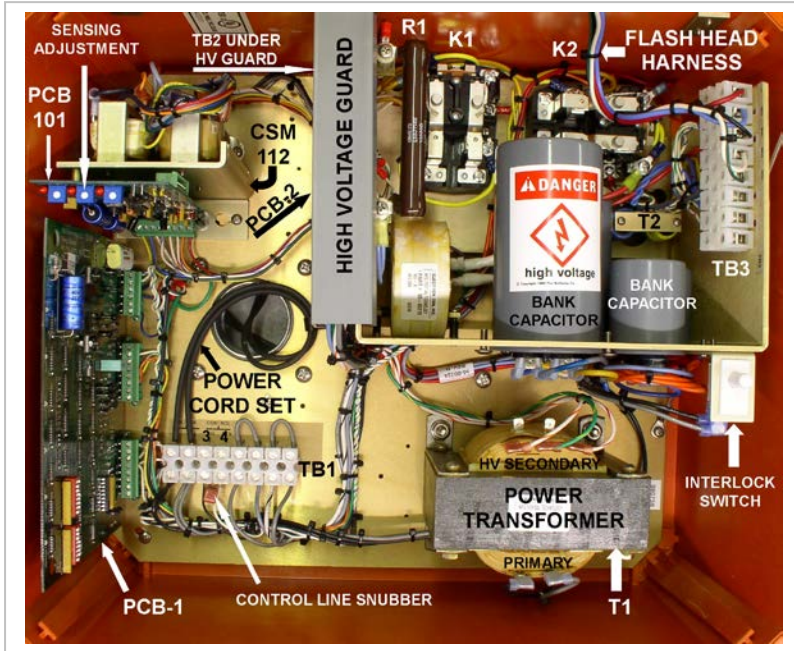
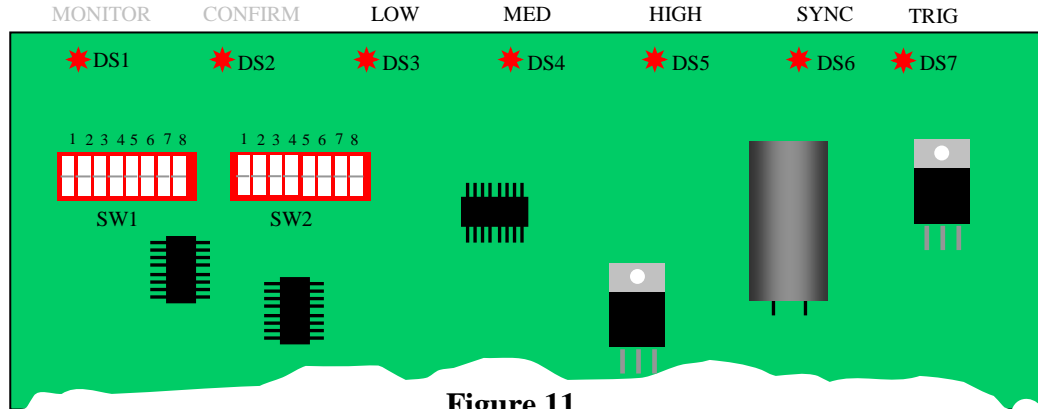
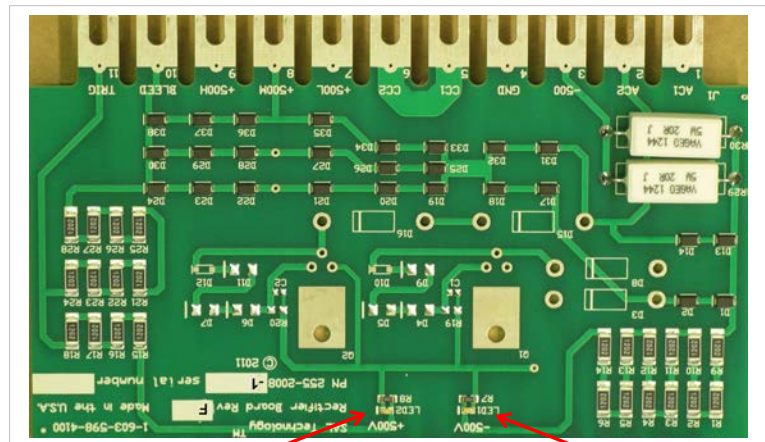

Figure 9
Figure 11
Figure 12
- Check screw tightness on TB1 and TB3 (See Figure 9 for locations). Check every position that has a wire connection whether to external wiring or to internal circuits.
It is important to know where the major components are located, especially when attempting to follow troubleshooting procedures. Use Figures 9 and 10 for this information. A slave power supply does not have a CSM 112 Current Sensing Module; it is otherwise identical to a master power unit.
Each power supply has two circuit boards with indicator lights that can be used to interpret operating conditions. PCB-1 (Figure 11) is the timing and control circuit board. Its location is shown in Figure 9. It has seven red LEDs, but only five of these apply to standard functions. DS1 and DS2, labeled Monitor and Confirm, are used only when the Monitoring option has been elected at the time of purchase. SW1 and SW2 are programming switches
PCB-2 does not show in Figure 9, but its location is noted. It is shown in Figure 12 as it would be observed when installed, (i.e. upside-down). There are two LEDs at the bottom of the board. These LEDs are lit when high voltage is present. LED1 is for -500 volts; LED2 is for +500 volts. Both LEDs must be lit for flashing to occur.
Be sure that the power supply connected to this flash head has been turned off and that LED1 or LED2 on PCB-2 are not lit (see Figure 12). The interlock switch in the power supply removes power when the cover is open; however, removing primary power by disconnecting it at its source to the system is recommended for safety.